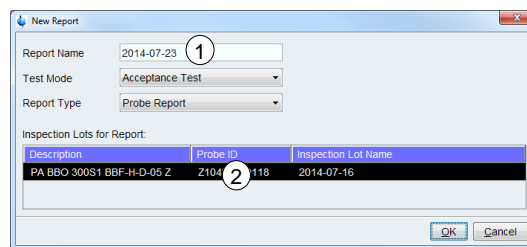

Figure 3-17: New Report dialog
24. Enter a **Report Name** (Figure 3-17 (1)) and select the Inspection Lot from the list (Figure 3-17 (2)). Keep the default settings of further options. Click **OK** to apply and continue. The **Report** tab (Figure 3-18) opens in NMRPT Workspace.